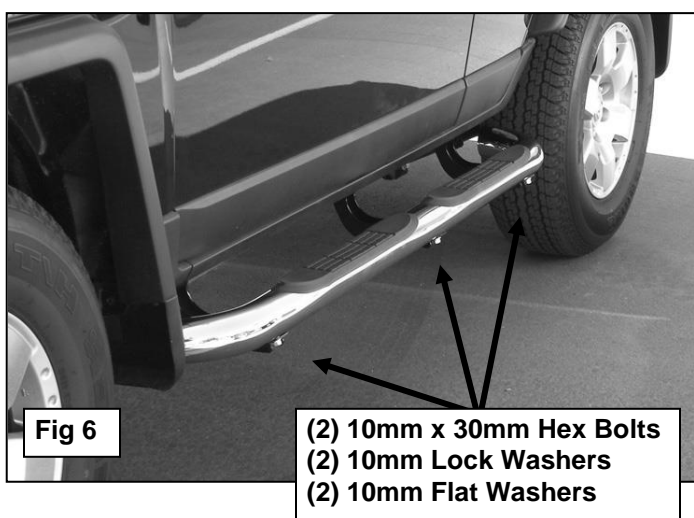

Fig 6
- With assistance, carefully place the Driver/Left Sidebar onto the (3) Brackets. **WARNING:** Do not rotate the Sidebar on the cradle or the finish on the Sidebar may be damaged. Line up the threaded holes in the bottom of the Sidebar with the slots in the Mounting Brackets. Attach the Sidebar to the Mounting Brackets with the included (6) 10mm x 25mm Hex Bolts, (6) 10mm Lock Washers and (6) 10mm Flat Washers, **(Figure 6)**. Do not tighten at this time.